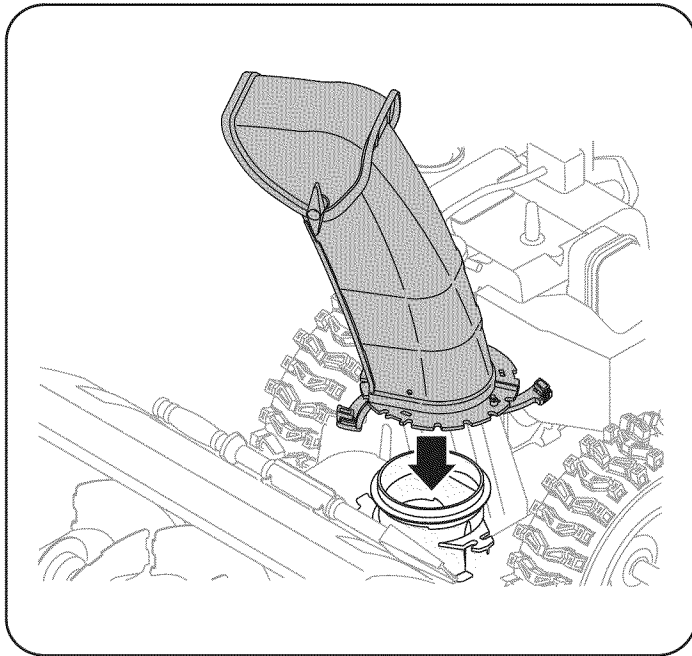

Figure 4
5. Pivot flange keepers out and position the chute assembly over the base. See Figure 4.